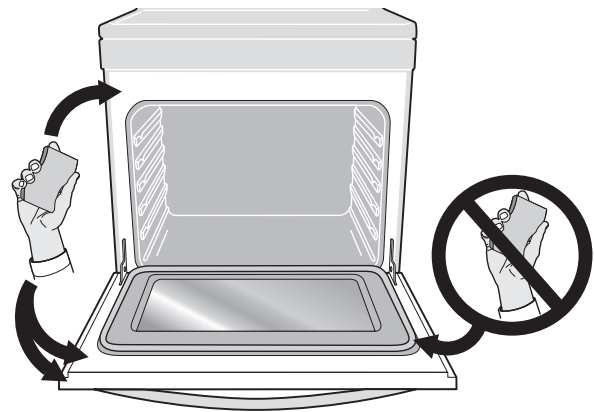

Figure 26: Clean around the oven door gasket
- Do not clean the oven door gasket (Figure 26). The woven material of the oven door gasket is essential for a good seal. Care should be taken not to rub, damage, or remove the gasket.
- Clean any soil from the oven frame, the door liner outside the oven door gasket, and the small area at the front center of the oven bottom. These areas heat sufficiently to burn soil on. Clean with soap and water. These areas are shown in white (Figure 26).